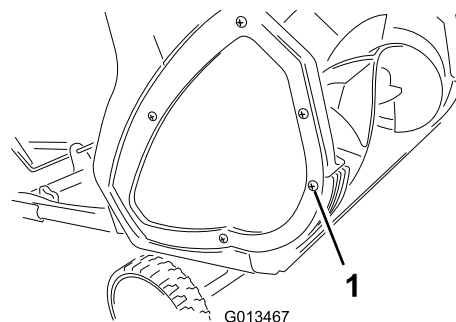
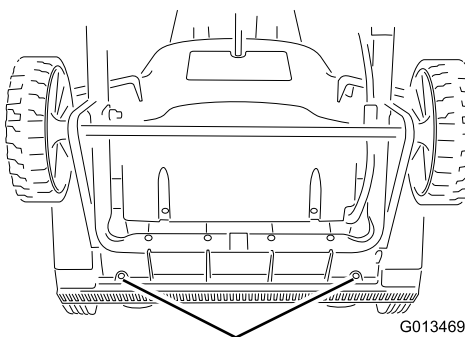

Figure 13
Figure 14
1. Remove the screw from each side plate that holds the scraper (Figure 13) and 2 screws from under the machine (Figure 14) that secure the scraper to the machine.